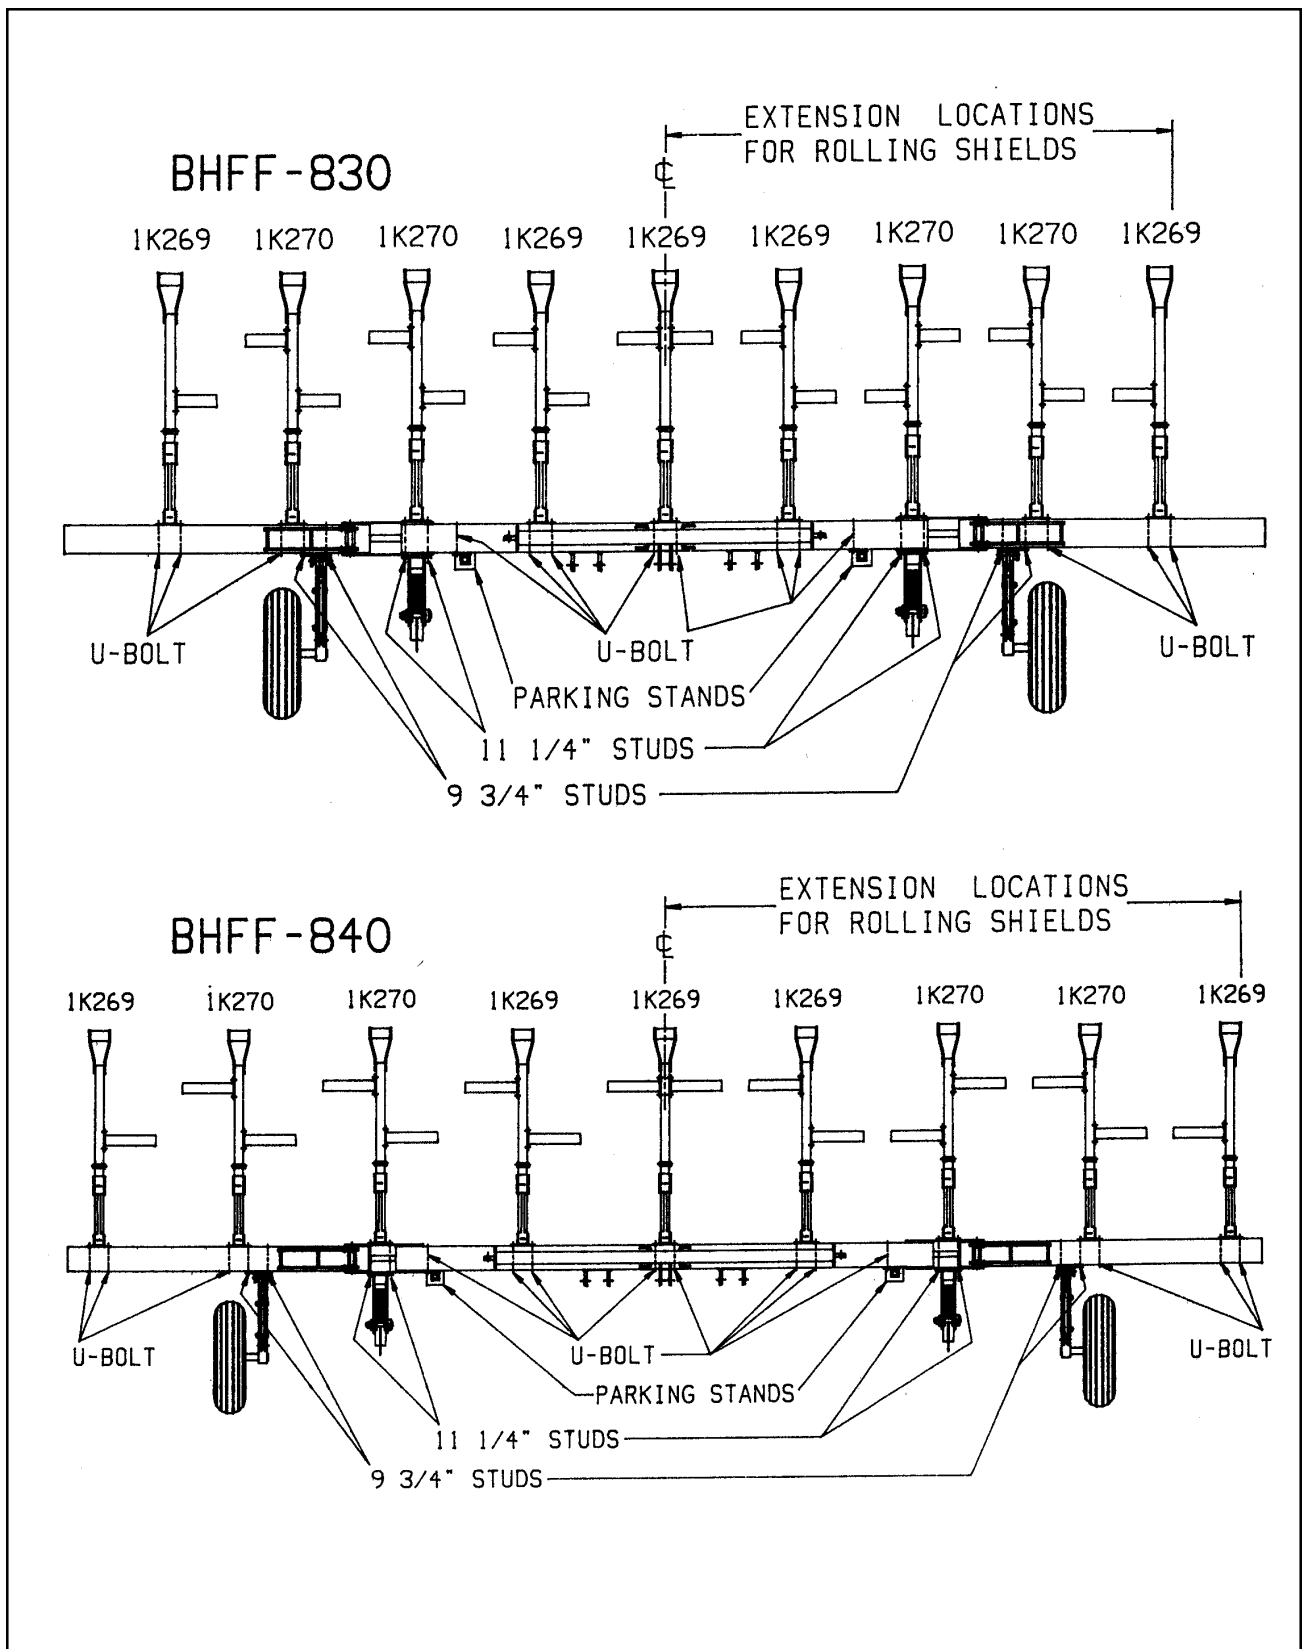

FIGURE 13
10. Selecting diagram for proper model, install one gang in the center of the toolbar and then balance of gangs at desired row spacing. Studs are used with a self-locking nut at one end and a standard nut and lock washer at the other. See Figures 13 and 14.
12. Install shank extensions using 1/2" u-bolts, lock washers, and nuts. Figures 13 and 14 show suggested pattern.